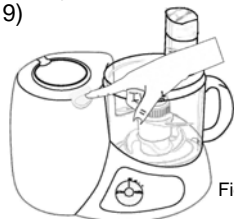

Fig. 19
3. Open the safety cover by pressing on the safety cover release button. (Fig. 19)